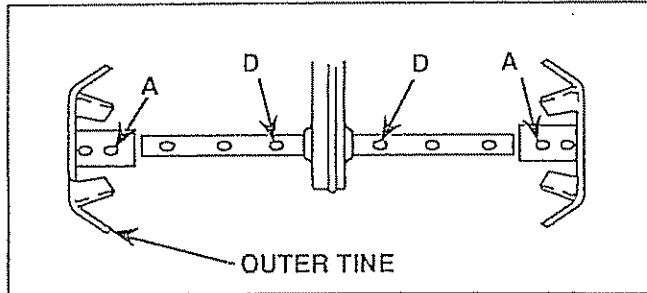

FIGURE 23
- EDGING - 9 - 5/8 INCH PATH (inner Tines assembled on innermost shaft position). Holes "A" in Tines to holes "D" in Tine Shaft (Fig. 23) Use this arrangement for edging and first cultivation of crops in 15 inch spaced rows.